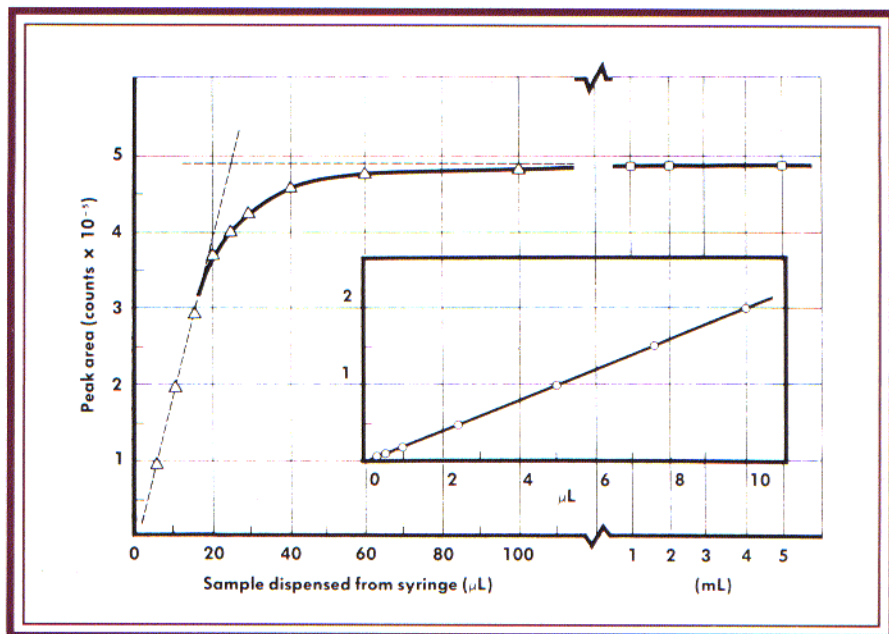

FIGURE 1: Linearity of filling of a sample-injection loop. (Courtesy of Rheodyne, Cotati, California.)
Precision problems can arise from poor method design. Improper loop filling has been discussed (2) but bears repeating here. Figure 1 illustrates the filling characteristics of a typical sample-injection loop. In this case, a 20- μ L loop was used; various aliquots of sample were placed in the loop (x-axis) and the corresponding signal measured (y-axis). The plot is linear below $\sim 60\%$ of the loop volume. A steady response for a full loop was not obtained until the loop had been flushed with $\sim 300\%$ of its nominal volume. Between 60% and 300% of the nominal loop volume, the response curve is nonlinear. This nonlinear region exists because of the laminar